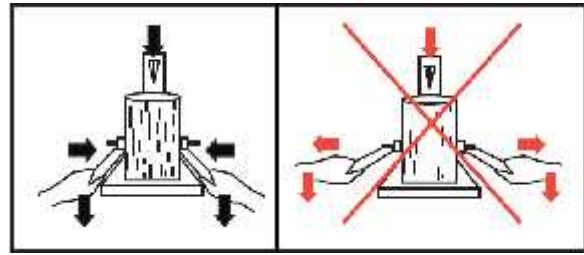

Fig.19
c) Tenez la bûche en maintenant fermement les leviers de contrôle (Fig.19)
Ne jamais ouvrir les supports de bûches lorsque le vérin est en action (Fig.19)
c) Hold the log with clamping brackets closely in the control lever guards (Fig.19).
Never open clamping brackets while ram is moving (Fig.19)
3. Firmly hold log with log holder claws (18).
4. Lower the control levers to start the splitting (see Fig.19).